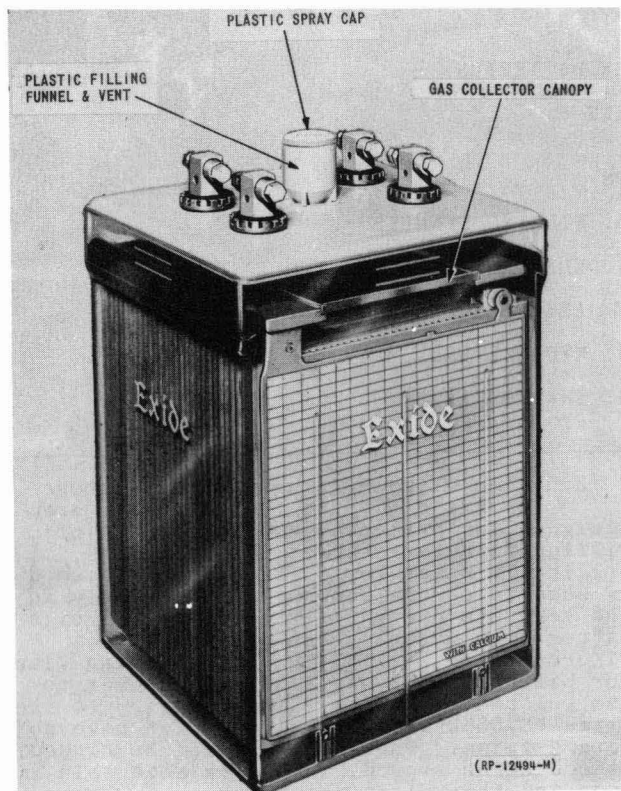
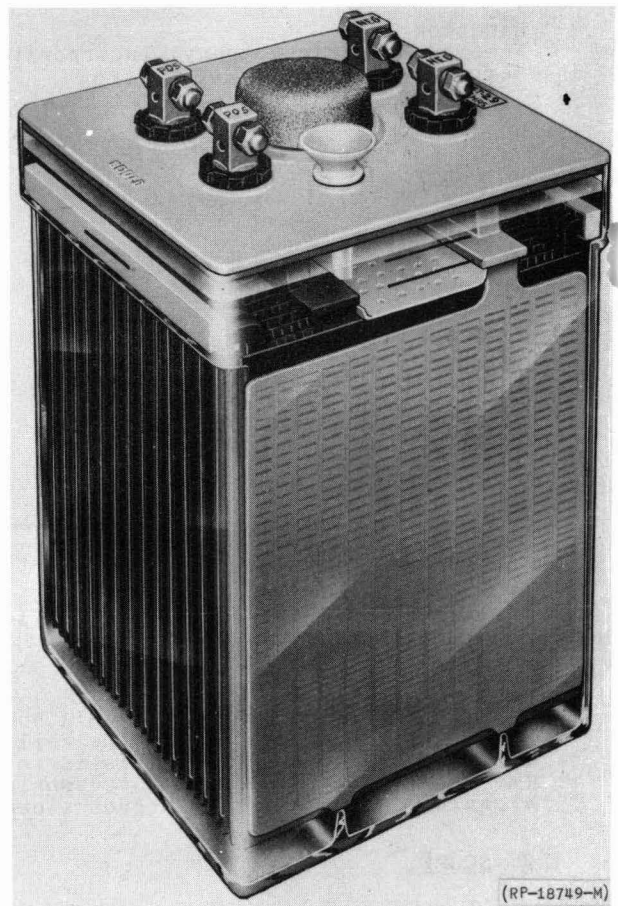

FIG. 1 KS-15544 L508 EXIDE CELL
FIG. 2 KS-15544 L508 GOULD CELL
4.2 Vents vary both in appearance and style even with the same battery manufacturer. The simplest may be an opening in the cover or a cap with a small breather hole such as used on automotive type batteries. On larger cells, where vents are explosion control devices, these may be a ceramic type vent (See Figures 2, 3, 5, 6, 8 and 10) or a submerged gas collecting canopy with a vent tube, which in turn requires a loose fitting spray cap. (See Figure 1, 7 and 9).